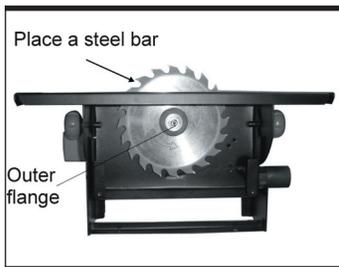

Fig 11
2. Place a steel bar or screwdriver blade (not supplied) between the table top and one of the saw blade teeth, (at the point arrowhead in Fig 11). Then undo the saw blade securing nut - normal right hand thread using a suitable spanner (not supplied).